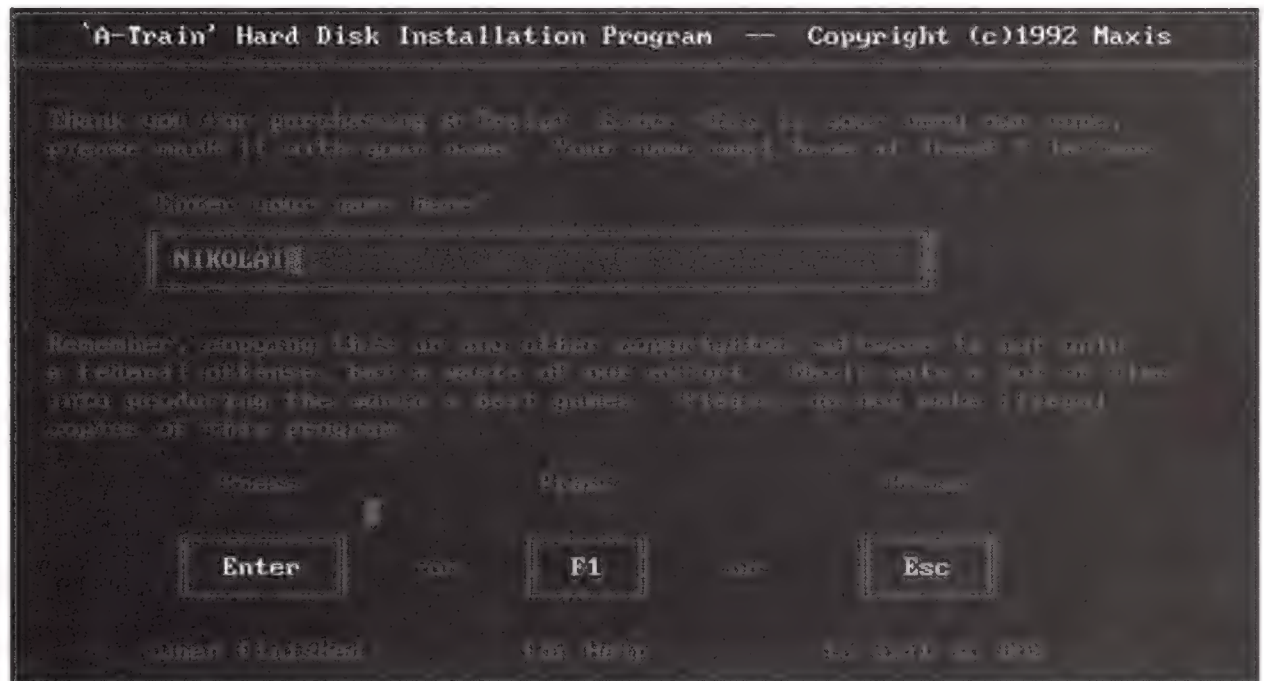

Figure A.2 Enter your name
5. On the next screen that appears, type your name in the text box labeled "Enter your name here:." Figure A.2 illustrates this.